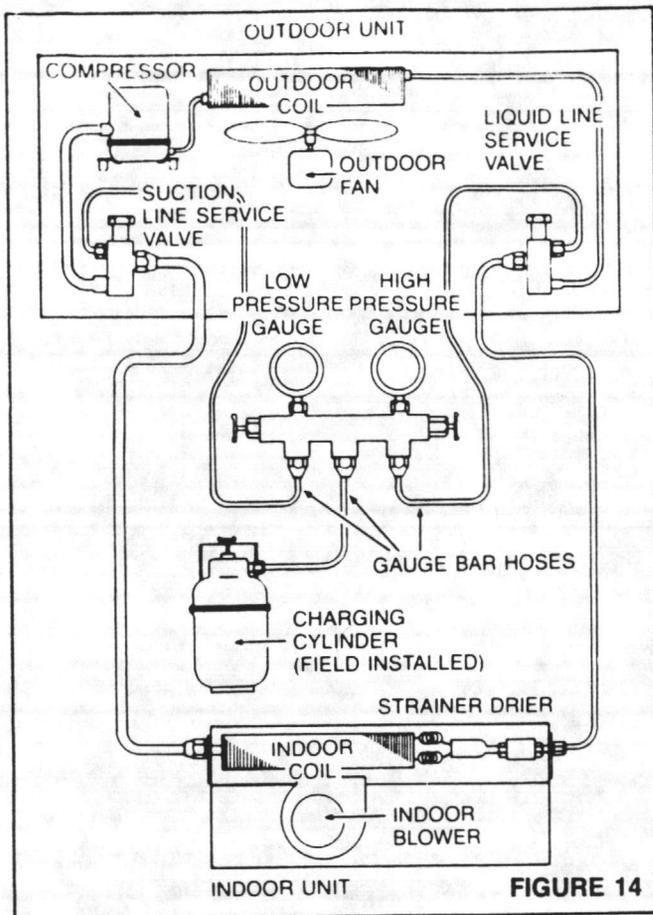

FIGURE 14
- Open the hand valve on the liquid connection of the gauge bar, and briefly purge (about 5 seconds) the liquid line to the indoor coil. SEE FIGURE 14.